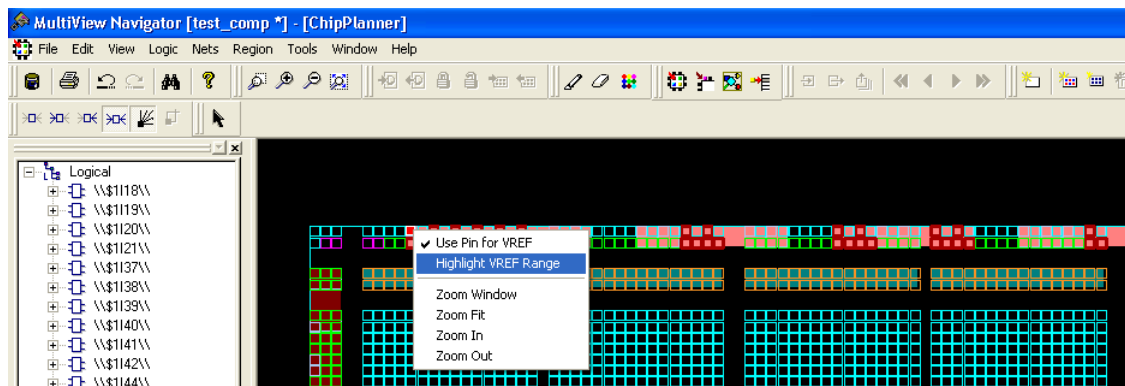

Figure 13-15 • V_{REF} Range
4. Right-click and then choose **Highlight VREF range**. All the pins covered by that V_{REF} pin will be highlighted (Figure 13-15).